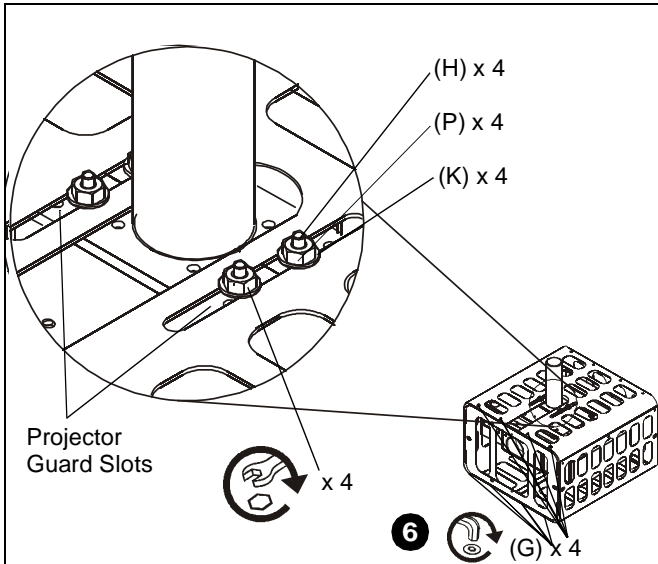

Figure 8
- Slide the projector guard (A or B) into position over the projector, while aligning the slots on the projector guard with the screws in the RPA/RPM mount. (See Figure 8)
- Reinstall the 1/4" hex nuts (P) and 1/4" washers (K) onto the screws (H). (See Figure 8)
6. Install four 10-24x3/8" security screws (G) in remaining four holes. (See Figure 8)